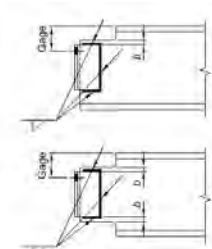

Fig. 8-14. Illustration of shelf dimension for fillet welds.
- Minimum Shelf for Fillets, Fig 8-14